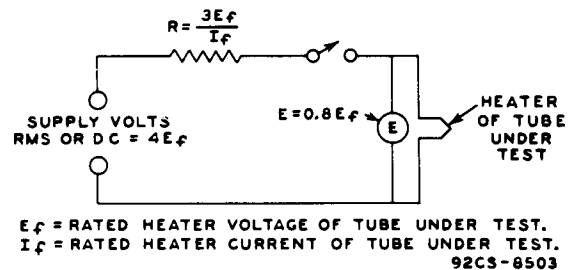

Fig.1 - Test Circuit for Determining Heater Warm-Up Time.
Heater warm-up time is defined as the time required in the test circuit shown in Fig.1 for the voltage (E) across the heater terminals to increase from zero to 20 volts.